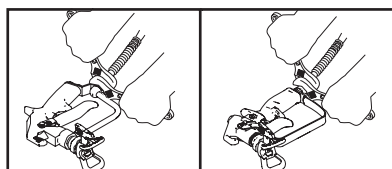

Fig. 9
2. Connect whip hose (if applicable) and gun to other end of hose. Tighten securely. (Fig. 9)